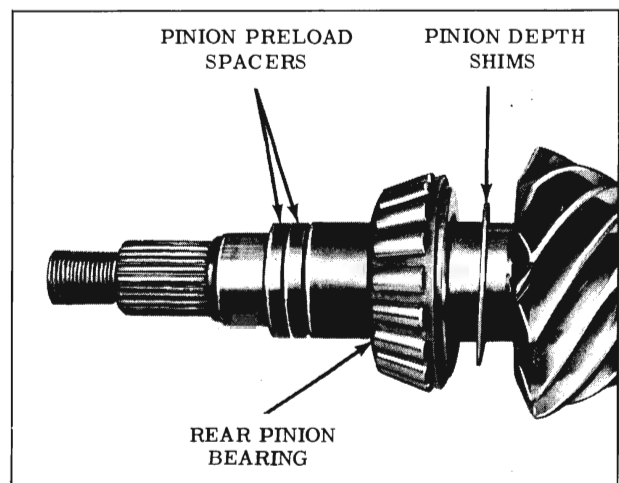

Fig. 6-123 Pinion Gear Shims
3. Place the original preload spacer on gear (Fig. 6-123).